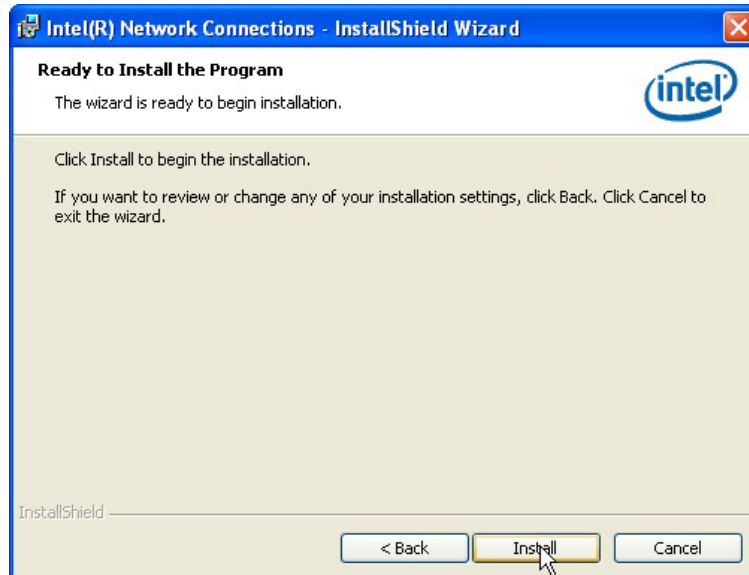

Figure 6-19: LAN Driver Installation
Step 14: The **Ready to Install the Program** screen in **Figure 6-19** appears.